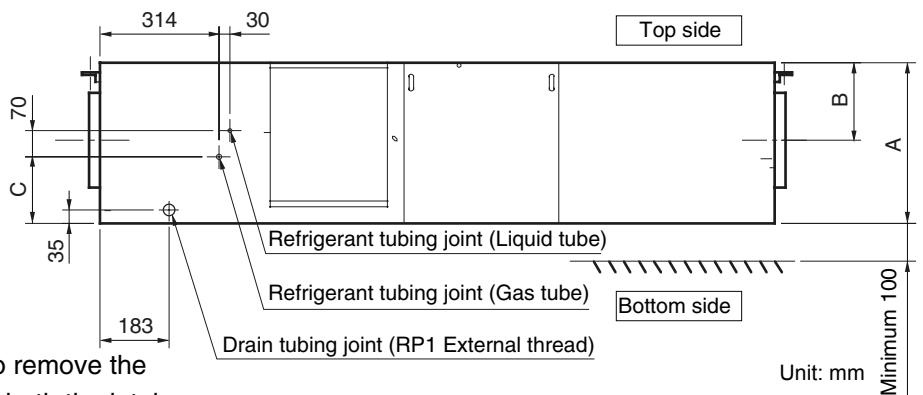

Fig. 3-188b
- Fig. 3-188b and Table 3-11 show the detailed dimensions of the indoor unit.